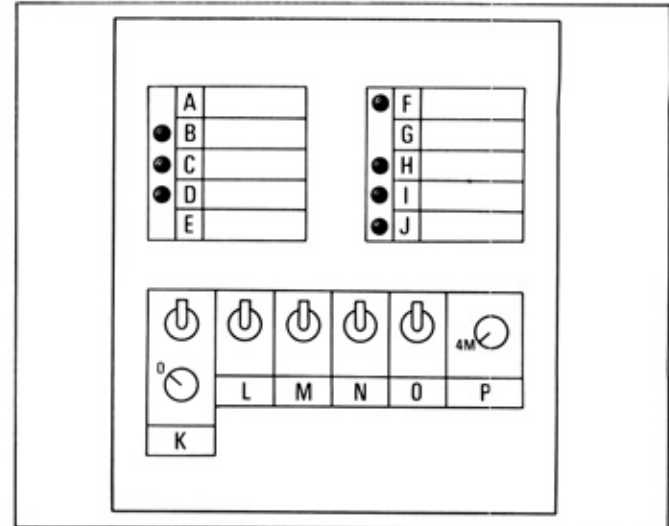

Fig. 18-127 4M Engine
- (1) At the condition shown in Fig. 18-127, and with the engine idling, the fast idle link should be pulled in.
- (2) Tilt checker switch "L" to the "SIMULATION" side. The fast idle link should then return. If defective, check the diaphragm and link. If these are in normal condition, replace the VSV.